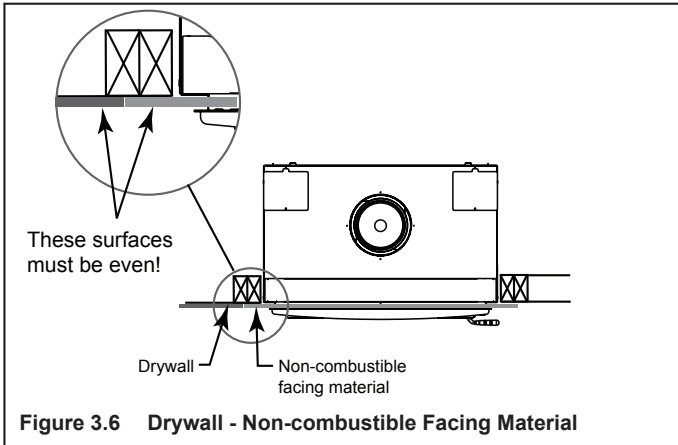

Figure 3.6 Drywall - Non-combustible Facing Material
The fireplace should be positioned so the face of the non-combustible material on the fireplace will be flush with the face of the drywall on the walls. See Figure 3.6.
- Metal strips must extend beyond the front and sides of the fireplace opening by at least 2 in. (51 mm). See Figure 3.6.